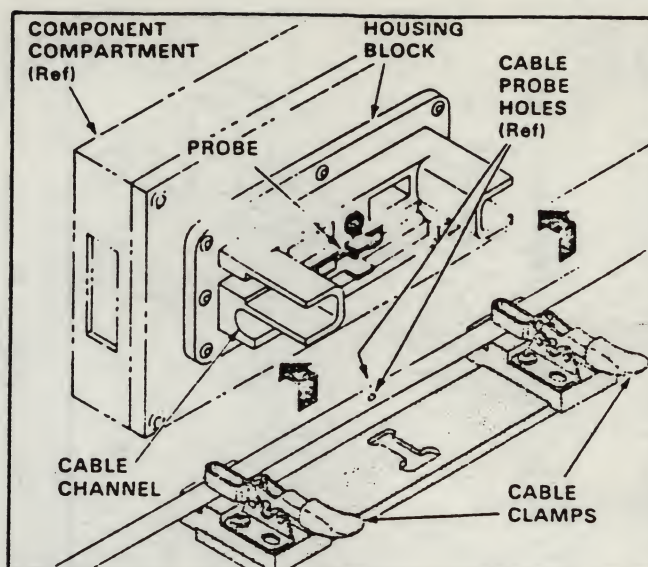

Fig. 9
2. Align hole in cable with probe in block and place cable in channel (Figure 9).